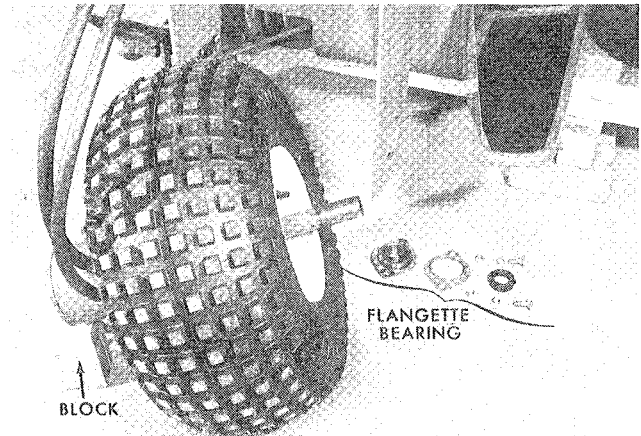

Figure 23
5. Remove the flangette bearing. Remove the three cap-screws holding the wheel motor bracket to the right side of the fork (Fig. 23).